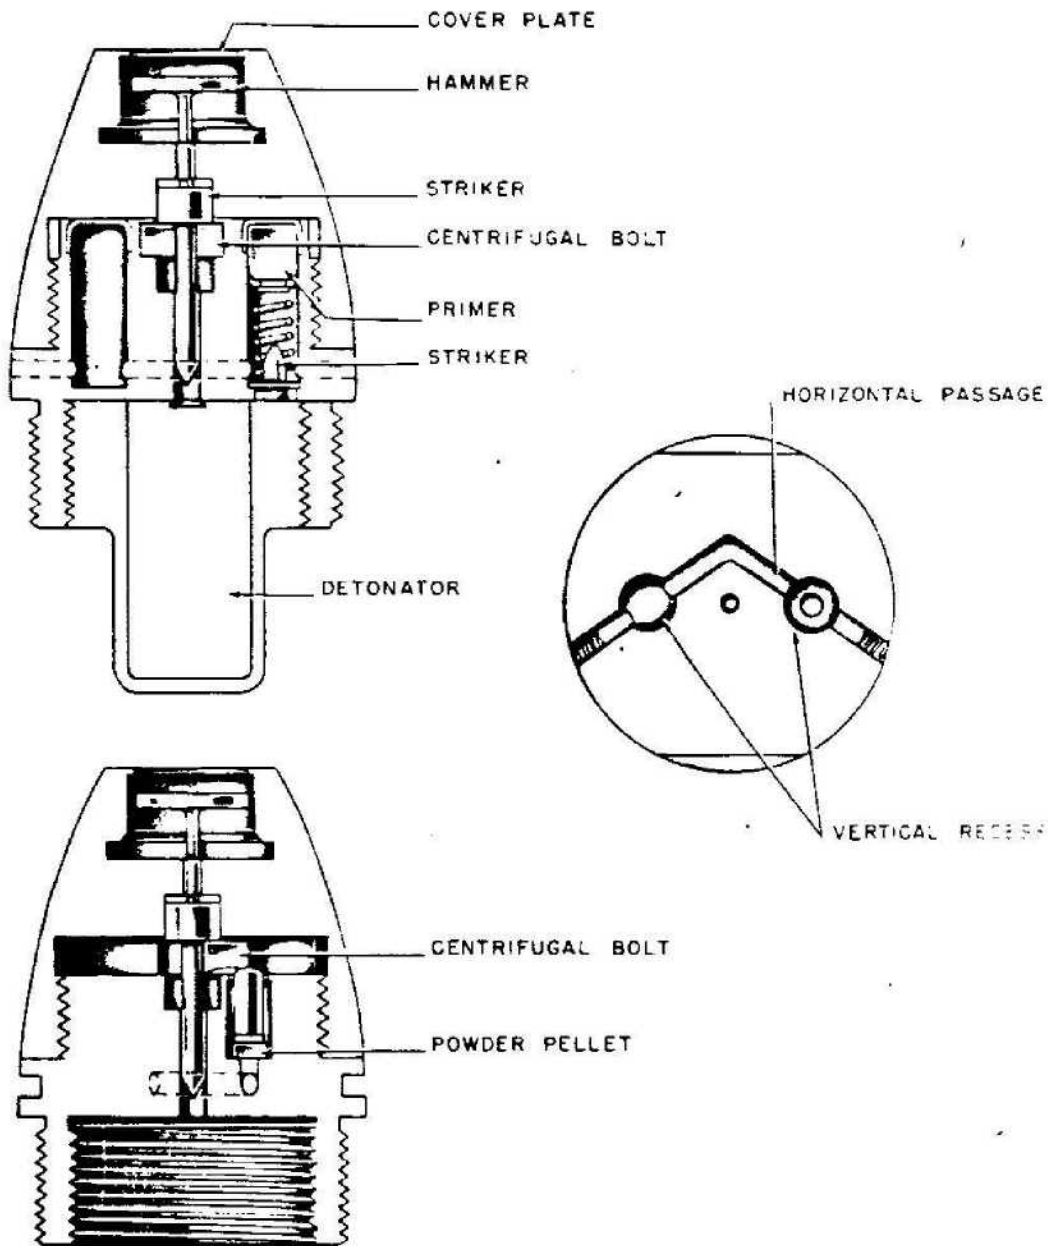

Figure 569—A. Z. 150 Rh. S.
**DESCRIPTION:** This fuze is of the detonating type with a direct action of the floating striker type. (See fig. 569.)